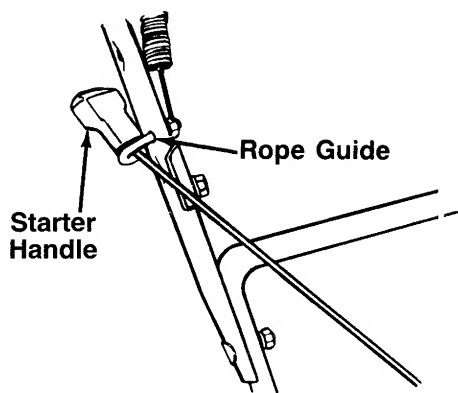

FIGURE 8.
3. Place the rope guide around the starter rope, so the rope guide is positioned as shown (bends downward slightly). See figure 8. Insert the rope guide through the right side of the upper handle, the cable bracket, and secure with hex lock nut.